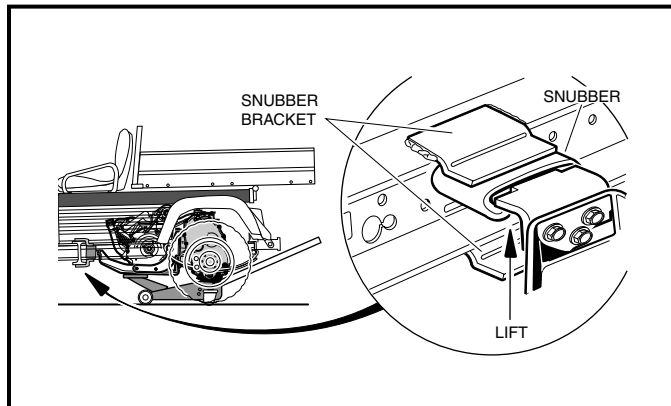
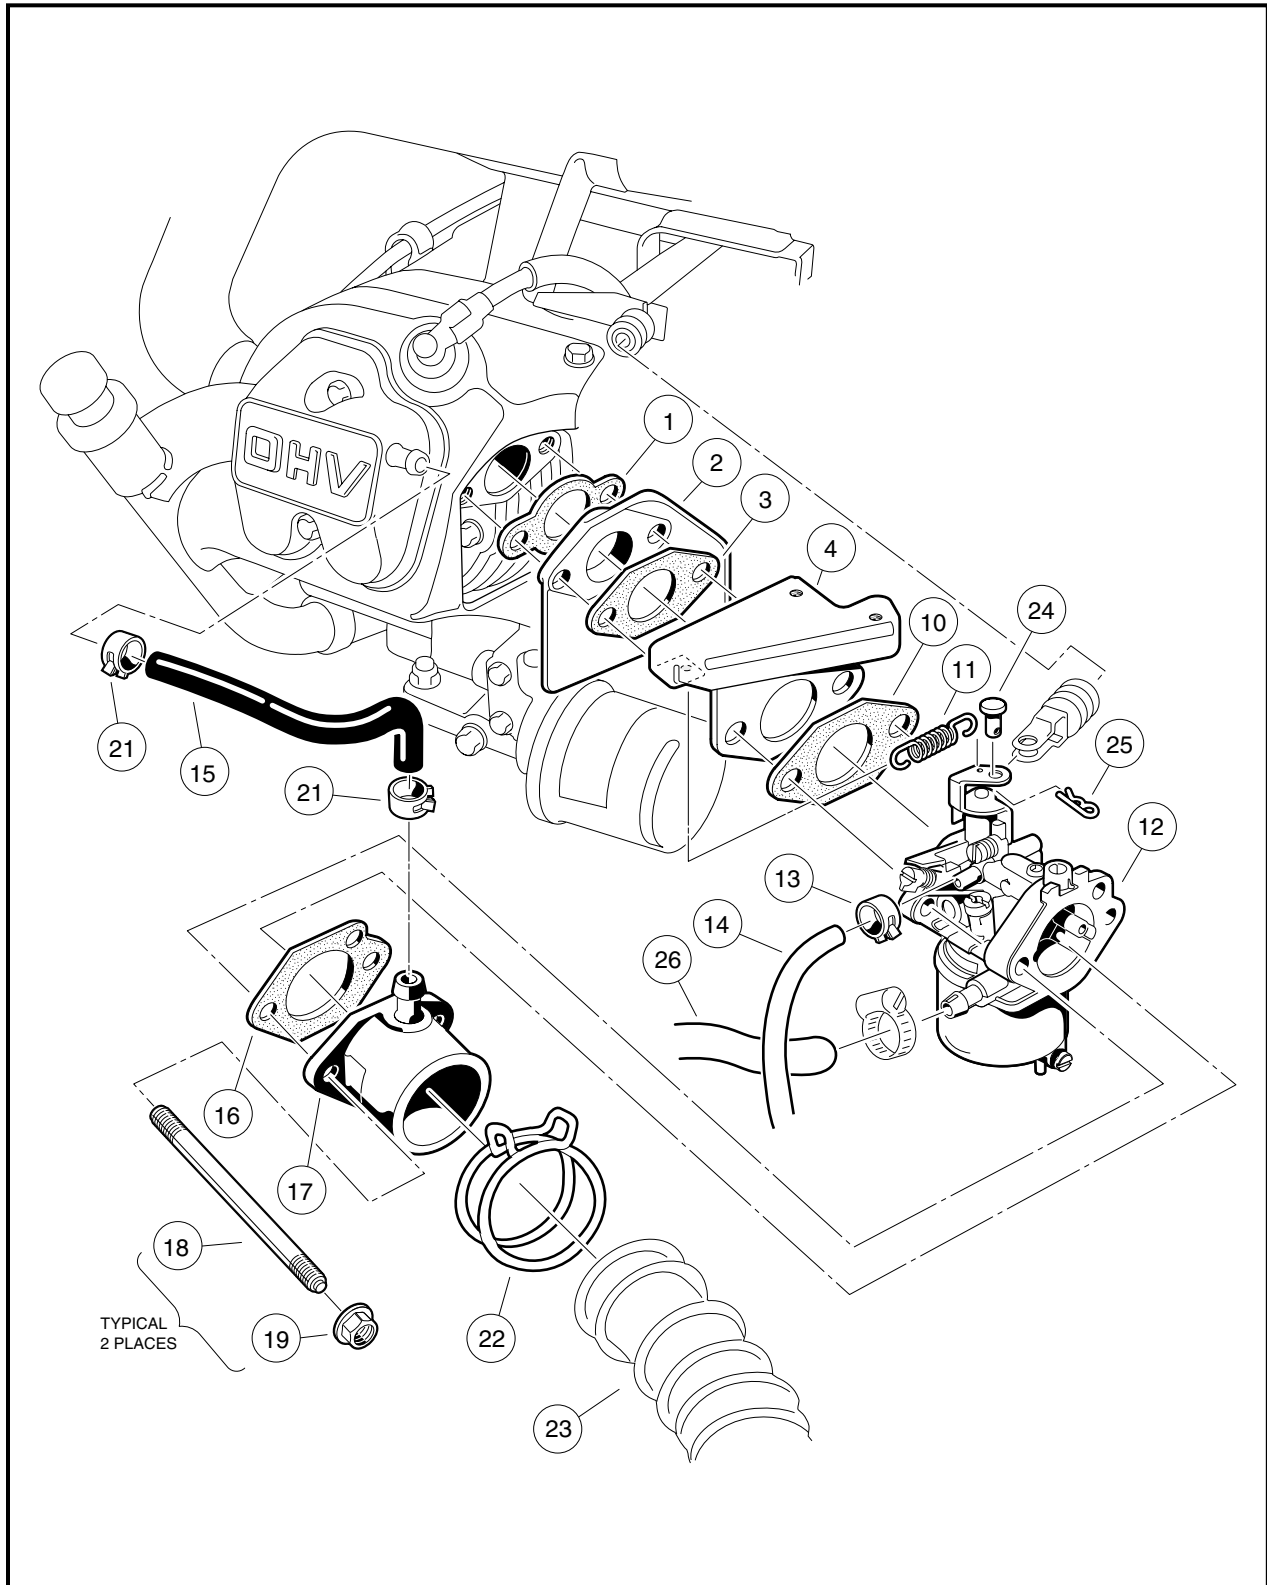

Figure 14-6 Compress Engine Snubber
Figure 14-7 Carburetor Installation
1. Remove the carburetor (**Figure 14-7, Page 14-8**).
- 1.9. Chock the front wheels and place a floor jack under the engine mounting plate, and raise the engine until the front bracket snubber is fully compressed. This will allow the carburetor to pass the electrical box assembly. (**Figure 14-6, Page 14-7**).
- 1.10. Remove the carburetor retaining nuts (19), intake pipe (17), and carburetor (12). **See following NOTE.**
**NOTE:** Note the orientation of the gasket (16), between the carburetor intake pipe (17) and the carburetor body (12) so that it can be replaced in the same orientation (**Figure 14-7, Page 14-8**).
12. Loosely attach the throttle return spring (11) to the carburetor throttle (12) and throttle bracket (4).
13. Install the carburetor (12), gasket (10), throttle spring (11), bracket (4), gaskets (1) and (3), and carburetor insulator (2) onto the manifold bolts (18) (**Figure 14-7, Page 14-8**).
14. Install the intake pipe gasket (16) (check for proper orientation) and intake pipe (17).
15. Install the carburetor retaining nuts (19) and tighten them to 50 in-lb (5.7 N·m).
16. Lower the floor jack from under the engine mounting plate, allowing the front bracket snubber to return to normal condition (**Figure 14-6, Page 14-7**).
17. Connect fuel supply line (26) and tighten screw clamp to 9 in-lb (1.0 N·m) (**Figure 14-7, Page 14-8**).
18. Install carburetor vent line (14) and clamp (13).
19. Install the governor cable clevis pin (24) and cotter pin (25).
20. Install the intake hose (23) and secure with hose clamp.
3. Remove the cotter pin (25) and clevis pin (24) at the carburetor throttle bracket (**Figure 14-7, Page 14-8**).